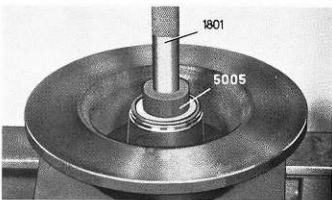
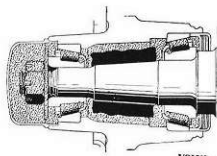

Fig. 7-26. Fitting the washer
Fig. 7-28. Lubrication of front bearing
8. Grease the bearing with the help of a pressure greaser. If there is not one available, pack the bearings by hand with as much thick grease as there is room for between the roller retainer and inner ring of the bearing. Also apply grease to the outer sides of the bearings and on the outer rings pressed into the hub. The recess in the hub is filled with grease all round up to the smallest diameter of the outer ring of the outer bearings, see Fig. 7-28. Use a high-class bearing grease for the bearing. Place the inner bearing in position in the hub. Press in the flat washer with drift 5005 and standard handle 1801, see Fig. 7-26.